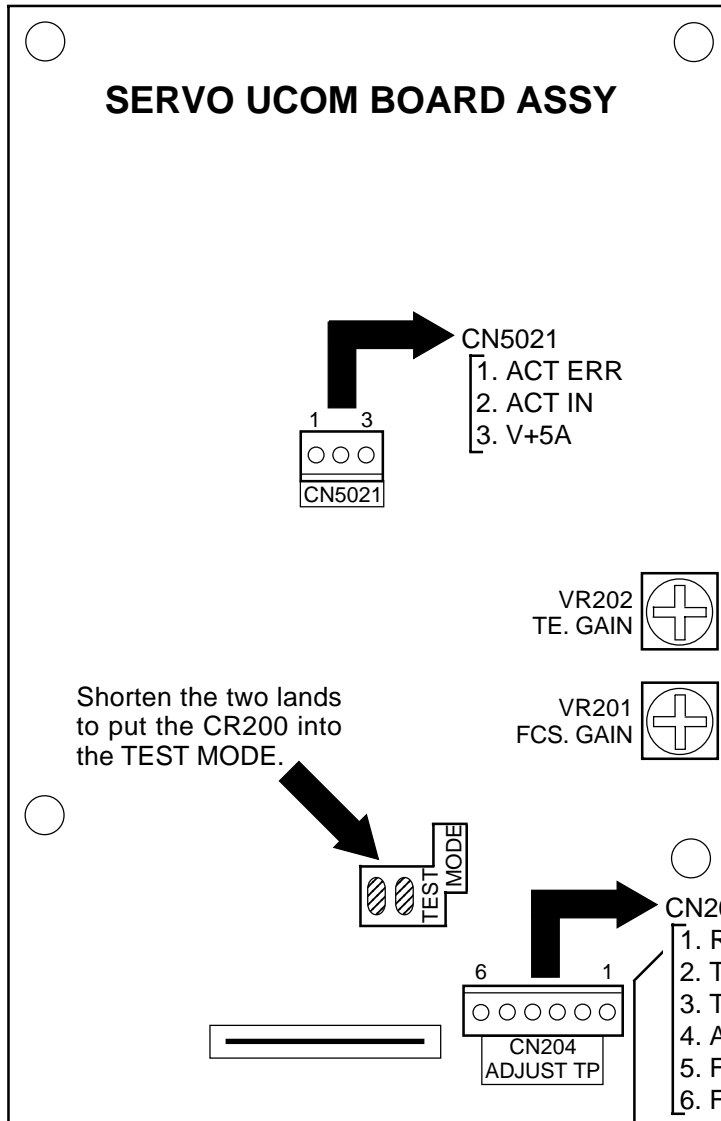

Fig. 6
- (1) Plug the power cord back into the AC socket.
- (2) Shorten the test mode lands. (See Fig. 6.)
- (3) Press the Power SW ON.